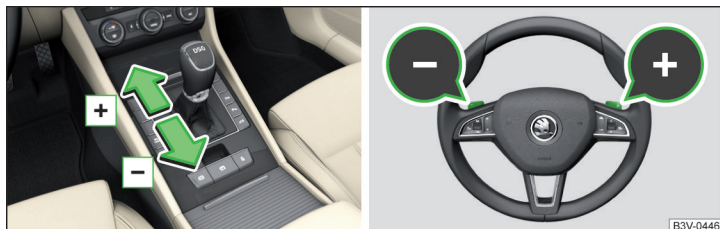

Fig. 265 Selector lever/multi function steering wheel
- To **change gear**, pull one of the rocker switches **-/+** briefly towards the steering wheel » Fig. 265.
- To **shift up**, tap the selector lever forwards **+** or pull the rocker switch **+** briefly towards the steering wheel » Fig. 265.
- To **shift down**, tap the selector lever backwards **-** or pull the rocker switch **-** briefly towards the steering wheel » Fig. 265.